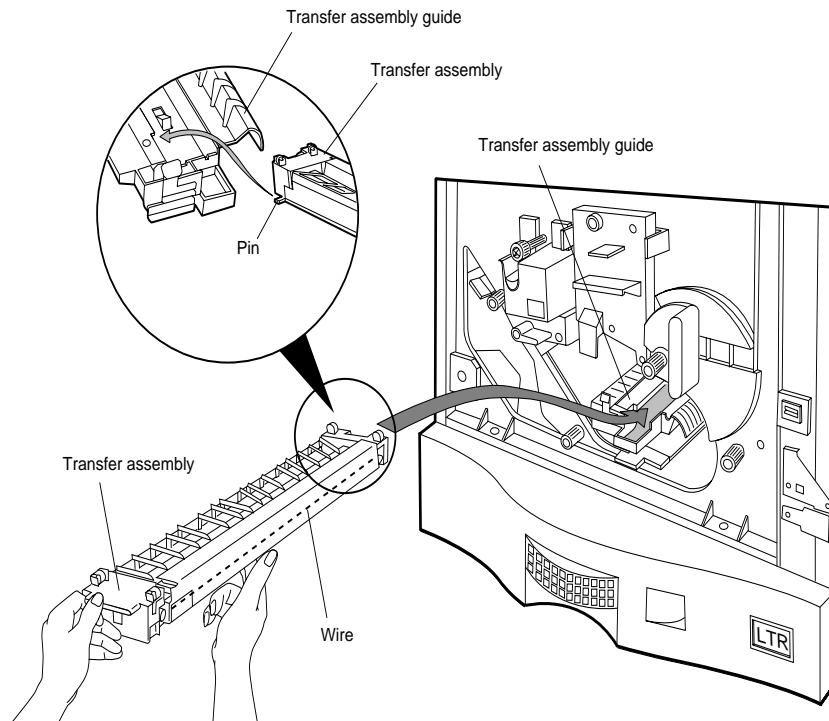

Figure 5-11 Inserting the Transfer Assembly into the guide
1. Using the alignment pin located on the end of the cleaned transfer assembly, insert the alignment pin of the transfer assembly into the left rail of the transfer assembly guide and push in to the end of the guide. See Figure 5-11.